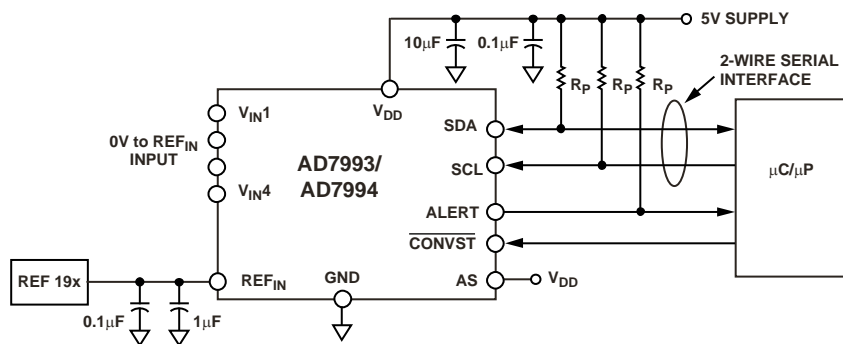

Figure 22. AD7993/AD7994 Typical Connection Diagram
Figure 22 shows the typical connection diagram for the AD7993/AD7994. In Figure 22 the address select pin (AS) is tied to  $V_{DD}$ ; however, AS can also be tied to AGND or left floating, allowing the user to select up to five AD7993/AD7994 devices on the same serial bus. An external reference must be applied to the AD7993/AD7994. This reference can be in the range of 1.2 V to  $V_{DD}$ . A precision reference like the REF 19x family, AD780, ADR03, or ADR381 can be used to supply the reference voltage to the ADC.